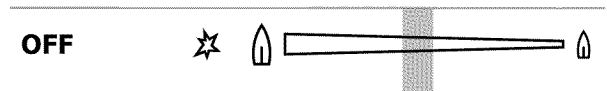

Fig. 2
4. If only the inner burner is needed, continue to rotate the gas control knob counterclockwise somewhere past grey area -*Fig. 2.*